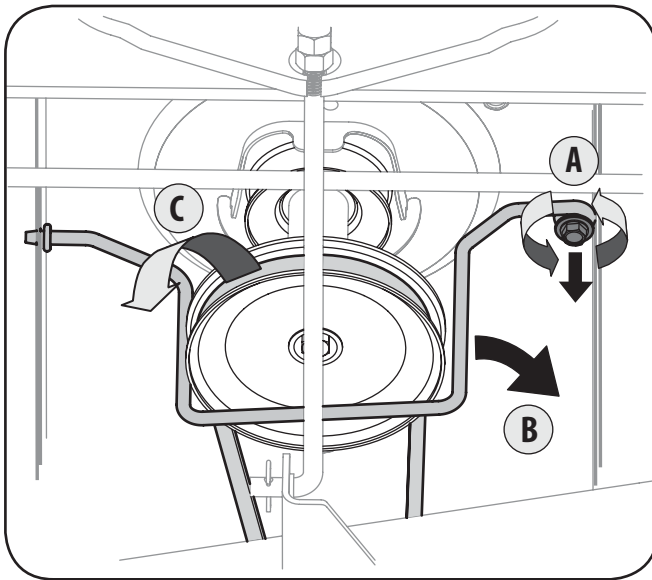

Figure 7-1
3. Remove the belt-keeper rod, from around the tractor's engine pulley, by removing the self-tapping screw (A) that secures it. See Fig. 7-1.
4. Remove the belt (C) from around the tractor's engine pulley and idler pulley(s). See Fig. 7-1.